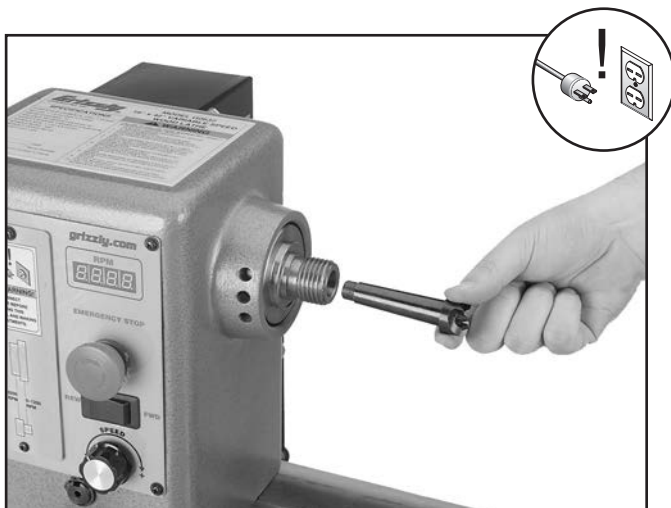

Figure 25. Installing center into the headstock spindle.
4. Insert the tapered end of the center into the spindle, and push it in with a quick, firm motion (see **Figure 25**).